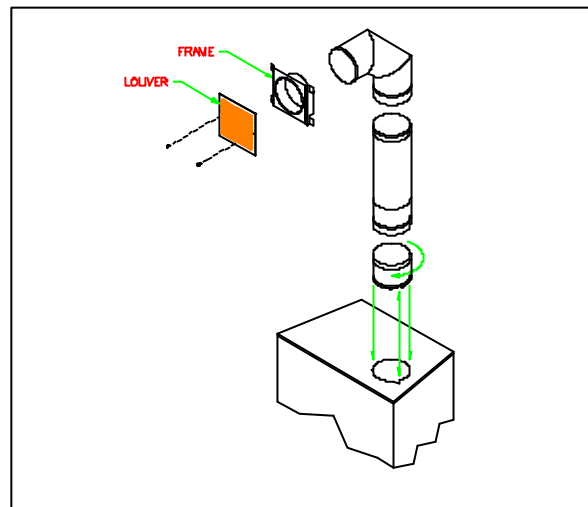

figure 15
1. Double hot air outlet including: (See Fig.15)